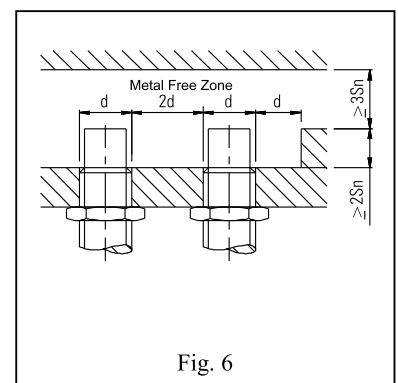

Fig. 6
**Non-flush fitting.** Inductive proximity switches not intended for flush fitting can be affected by surrounding metal surfaces and must be installed with a metal free zone or non-damping material adjacent to the sensing face. (see figure 6)